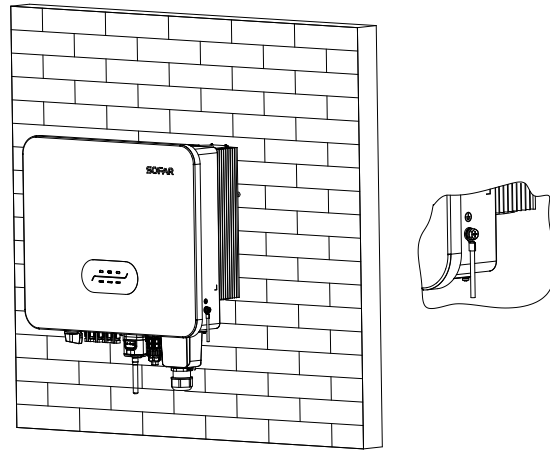

Figure 5-4 Inverter external grounding instruction diagram
Step 3: Remove the screw from the bottom side of inverter (Shown as figure 5-4), connect the grounding cable to the grounding point and tighten the grouping screw. Torque is 5N.m.